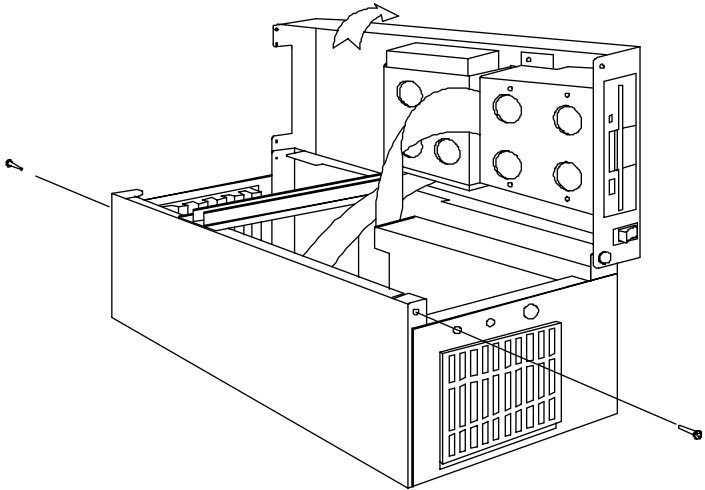

Figure 2-1. Removing the cover
1. Remove two screws (one on each side) which secure the cover to the card cage (see Fig. 2-1). Lift the lid to expose the interior of the chassis.